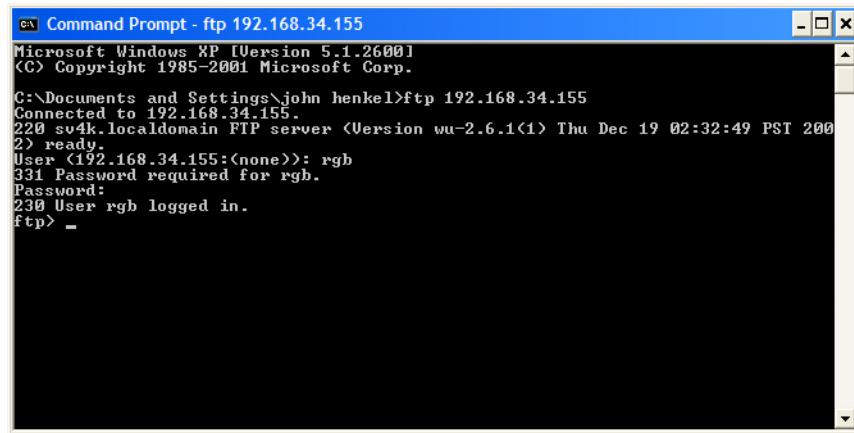

Figure D-1. Windows FTP Login Screen
- At the prompt enter the user name **rgb**' (lower case) and press the ENTER key. You will then be prompted for a password. Type **spectrum**' and press the ENTER key. You should see the message **230 User rgb logged in**' as shown in Figure D-1 below.